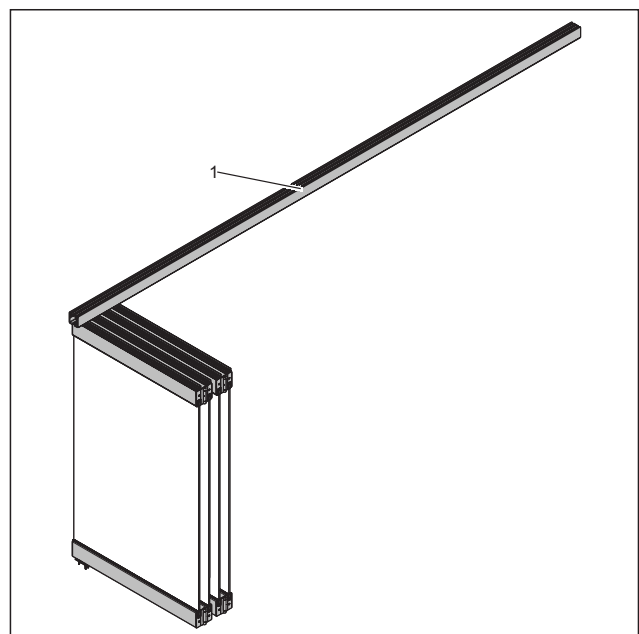

Fig. 41 Cleaning the track rail (example illustration with FSW EASY Safe)
1. Check the track area of the interior track rail (Fig. 41/1) for dirt and clean, if necessary.